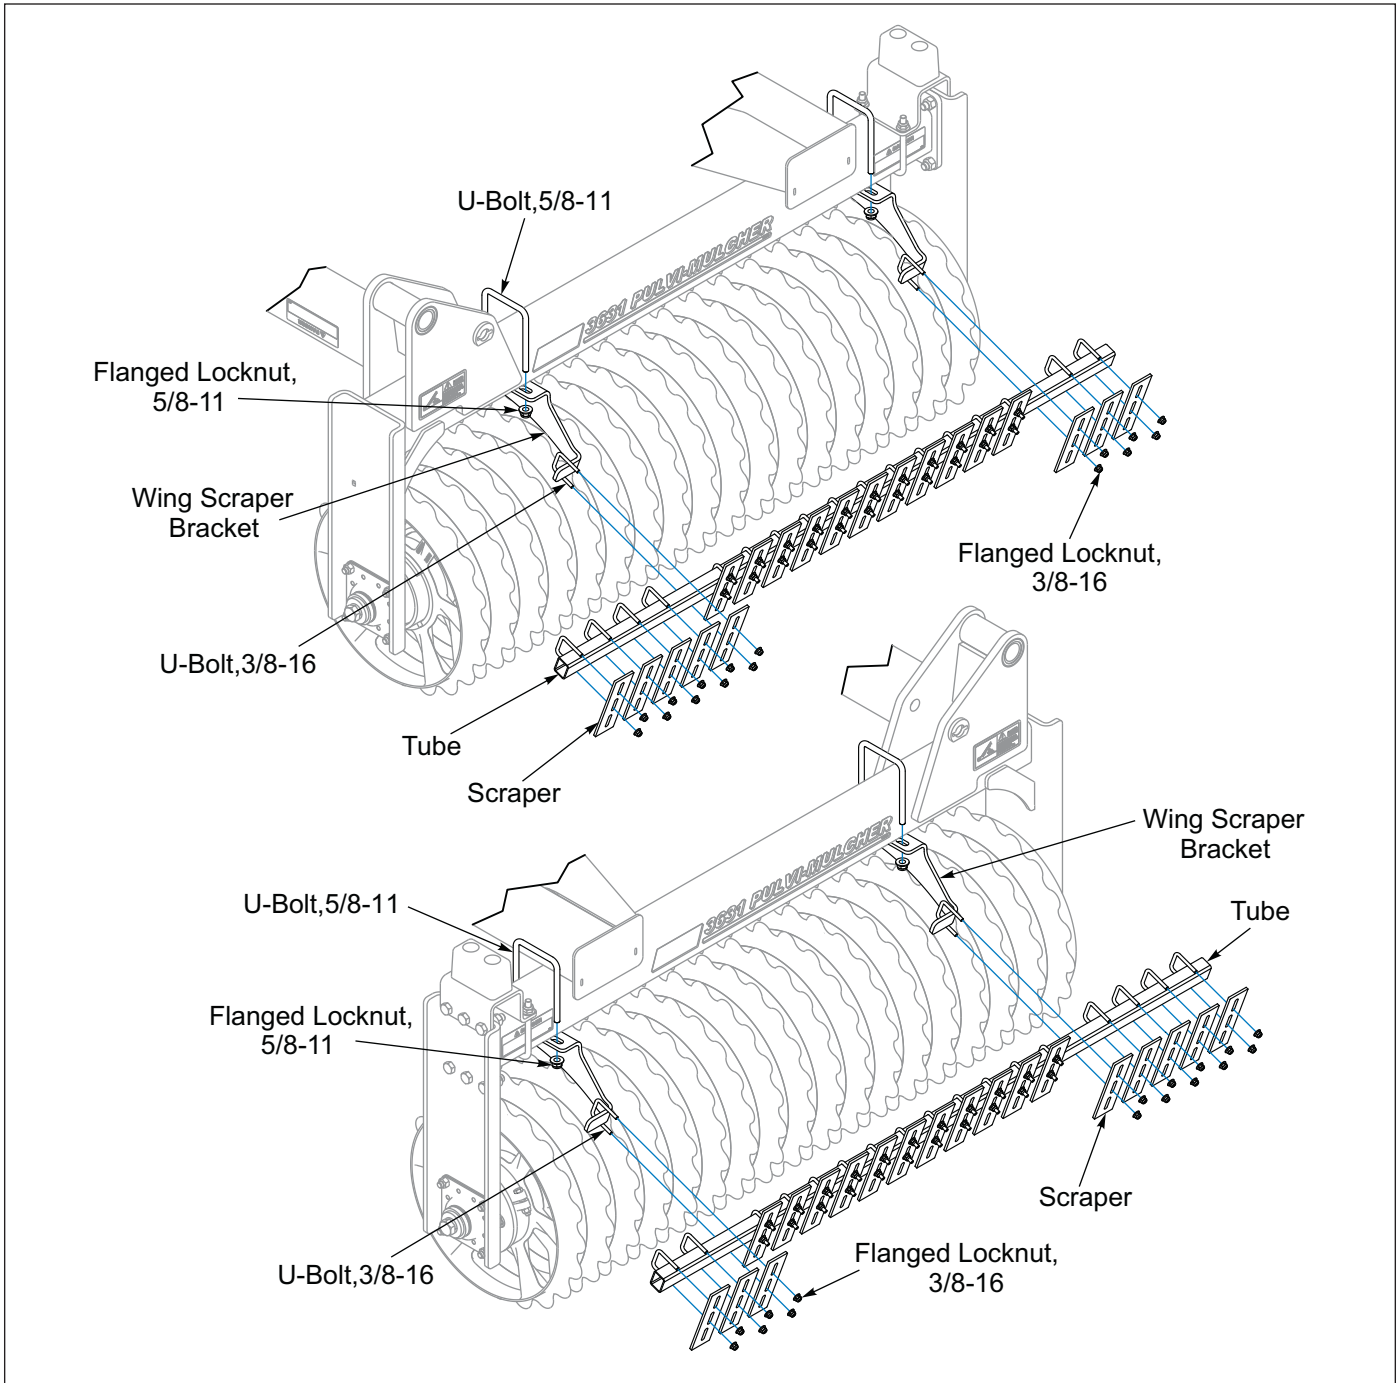

Figure 2-67: Wing Rear Scraper Installation
1. With the Wing Rollers on level ground, place the 5/8-11 U-Bolts over the frame tube and through the Wing Scraper Brackets, secure with Flanged Locknut. See Figures 2-67 and 2-68.